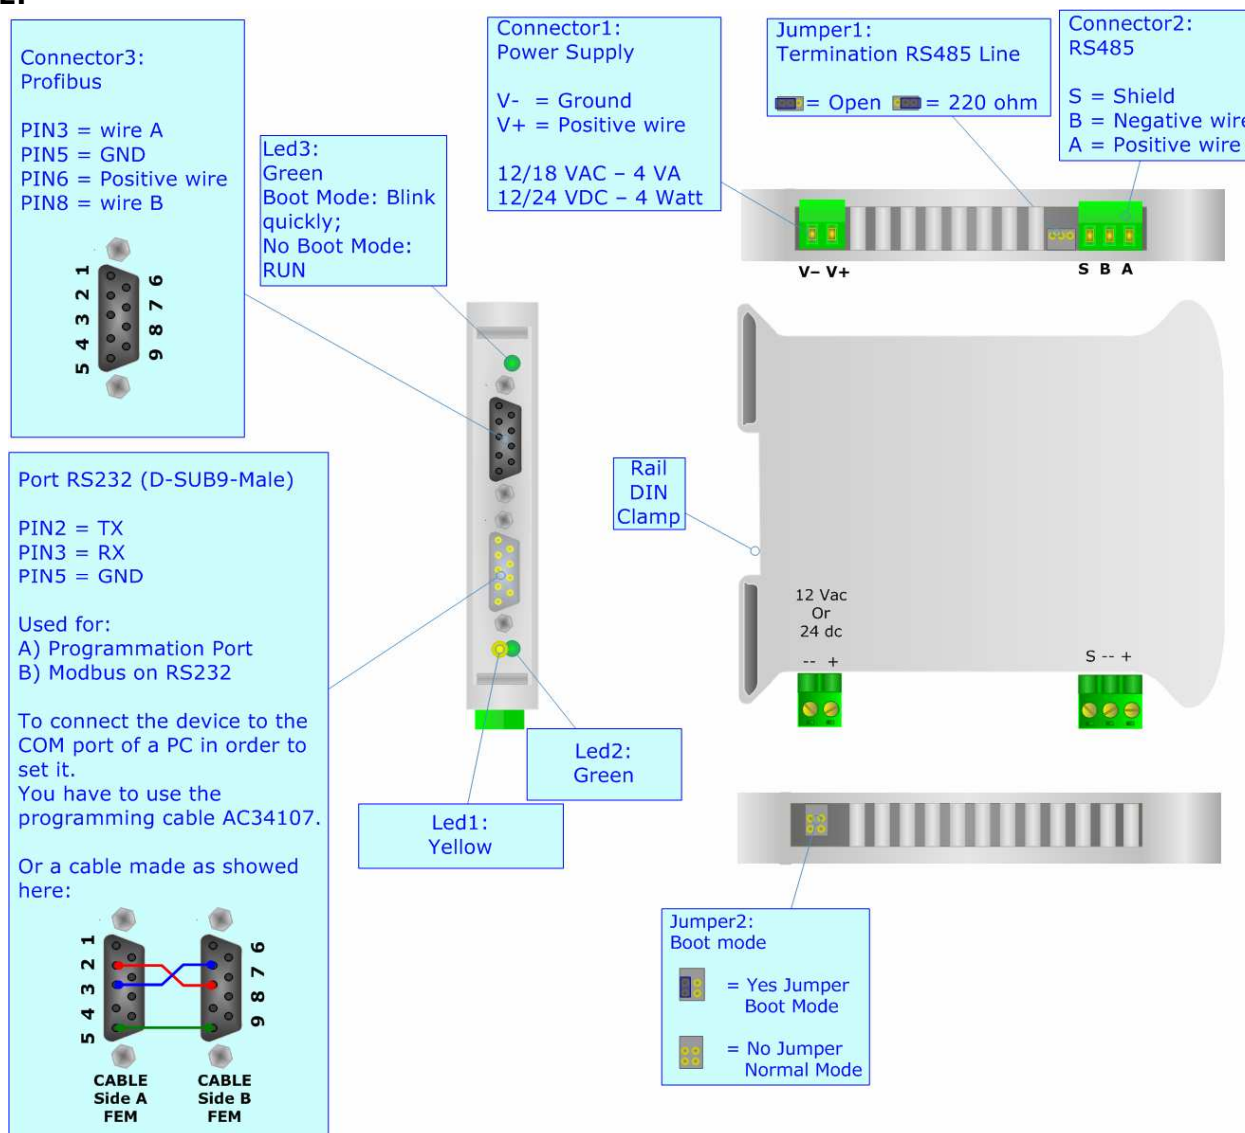

Figure 1: Connection scheme for HD67562
- Insert the Boot Jumper (see the Fig. 1 for more info);
- Check the "BOOT Led". It must to blink quickly (see the Fig. 1 for more info);